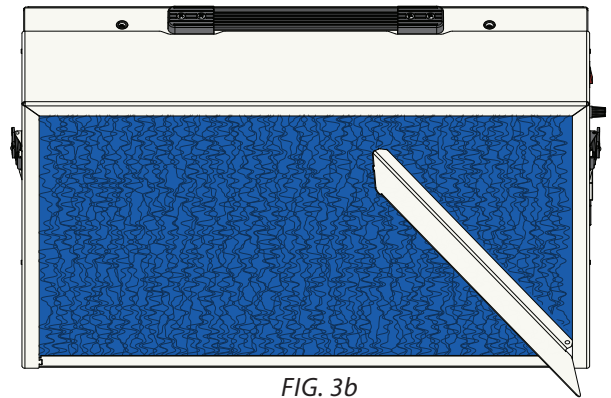

FIG. 3b
- b. Slide the Right Vane (H) between the Frame Assembly (E) and Pre-Filter (D) at an angle so that it slips under the Top Vane (G) and settles into the lower right notch as shown in [FIG. 3b].